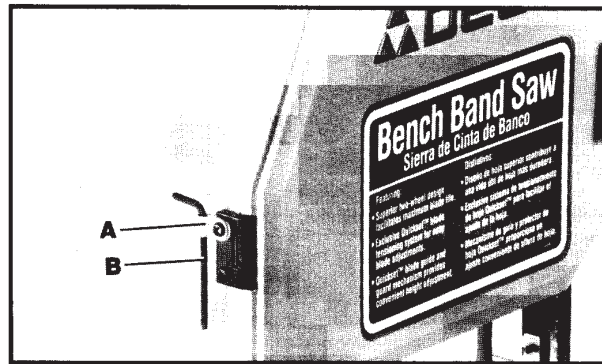

Fig. 31
A wrench holder (A) Fig. 31, is supplied on the back of the saw frame to hold the adjusting wrench (B). The adjusting wrench (B) is used for most of the adjustments on the band saw, and the holder (A) enables you to store the wrench with the saw and prevent the wrench from being lost.